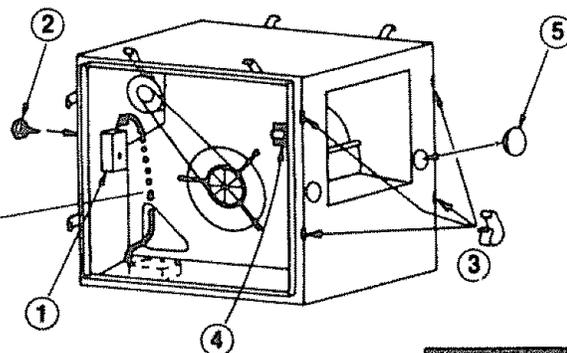

FIGURE 5
- ① Remove both louvers and set them where they will not fall. See pg. 11, "Taking Off Louver"
- ② Remove four grille clips on side opposite motor.
- ③ Remove a reservoir by pushing the water crossover tube from the grommet and lifting out the reservoir.
- ④ Remove the second reservoir as above.
- ⑤ Remove the screw that holds the wiring box.
- ⑥ Remove 1/8 inch diameter and 3/8 inch diameter knockouts.
- ⑦ Remove two plastic plugs.
- ⑧ Loosen screw holding pad motor receptacle bracket, slide bracket up and detach from cabinet flange. Repeat on other side.
9. Turn cooler to side outlet position. (Figure 5)
REASSEMBLY AS SIDE OUTLET COOLER (Fig 5)